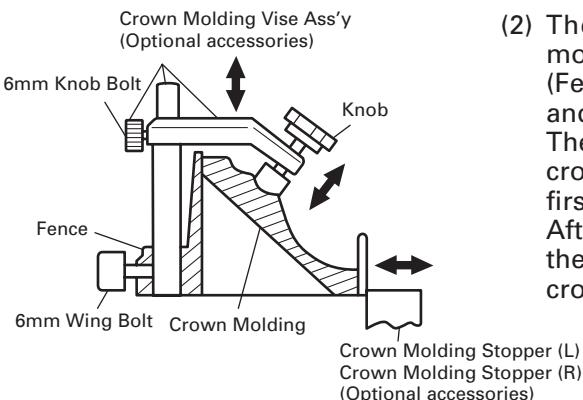

Fig. 30-b
- (2) The crown molding vise (B) (Optional accessory) can be mounted on either the left fence (Fence (B)) or the right fence (Fence (A)). It can unite with the slope of the crown molding and vice can be pressed down. Then turn the upper knob, as necessary, to securely attach the crown molding in position. To raise or lower the vise assembly, first loosen the 6mm knob bolt. After adjusting the height, firmly tighten the 6mm wing bolt; then turn the upper knob, as necessary, to securely attach the crown molding in position. (See Fig. 30-b)